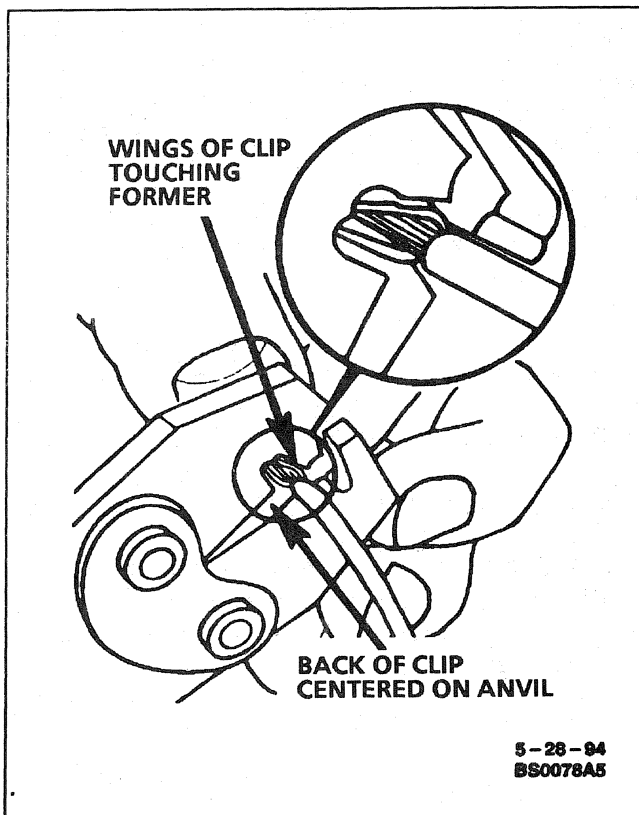

Figure 8 - Crimping the Splice Clip
- Make sure that the clip and wires are still in the correct position. Then, apply steady pressure until the crimping tool closes (see Figure 8).